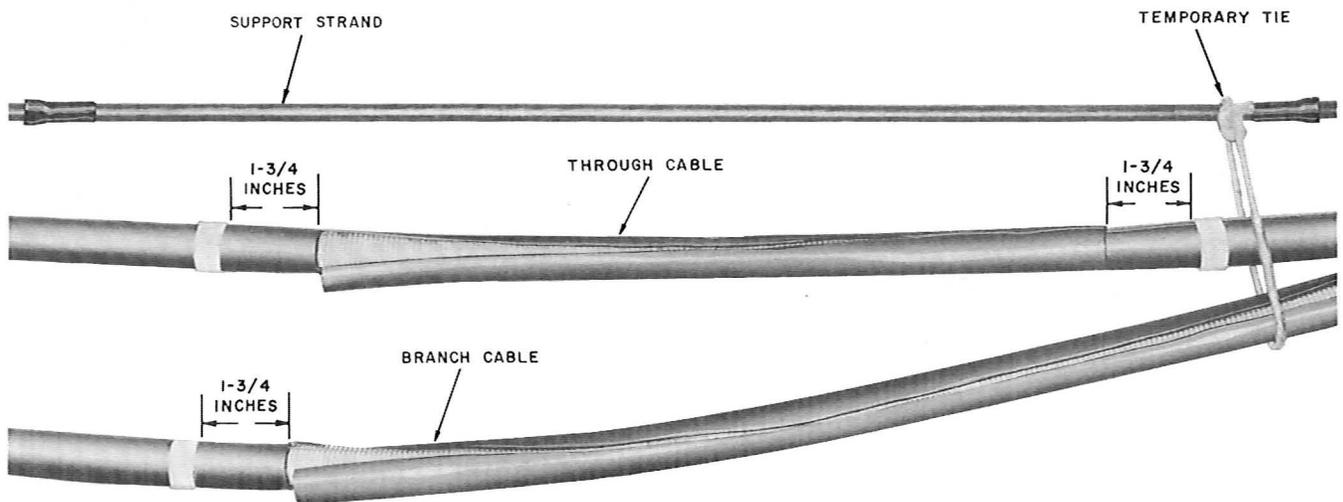

Fig. 26—Polyethylene Sheath—Marked, Cut, and Ready for Removal
5.21 Mark, cut, and remove the polyethylene sheath 1-3/4 inches inside the paper tape collars as shown in Fig. 26.